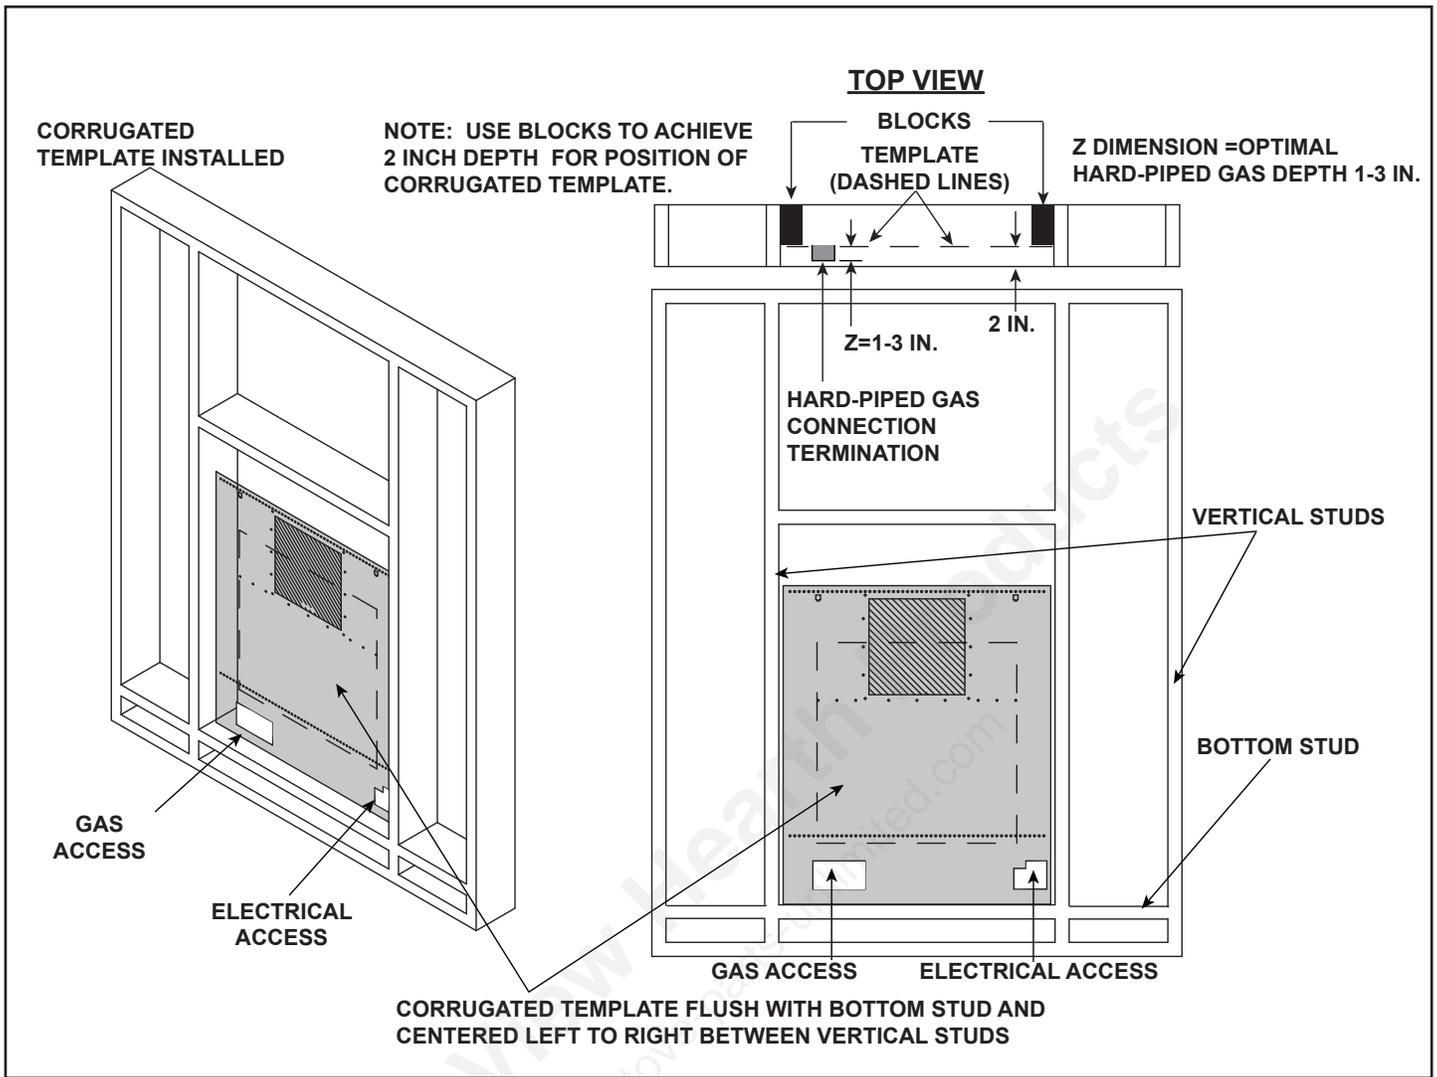

Figure 11.2 In-Wall with Corrugated Template
2. A corrugated Template may be used to simplify the installation process. Contact your dealer or see Service Parts section in Owner's manual to order. Using the template for installations of the REVO will help when locating the gas and electrical connections for the appliance. Install the corrugated template as shown in Figure 11.2. Use blocks to position the corrugated template in regards to depth.
**Note:** Hard-piped gas connections must be terminated with a specific "Z" dimension depth. See references to "Z" dimension in Figure 11.2. Terminating the Hard-piped gas connection with the proper "Z" dimension will simplify the process of connecting the gas to the appliance.